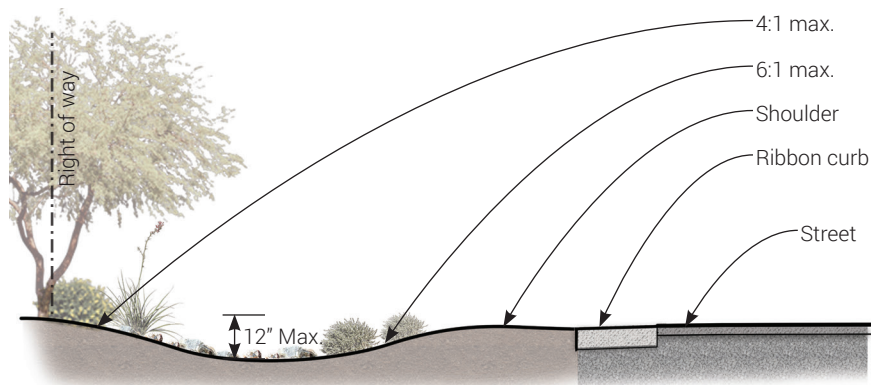

FIGURE 3d TYPICAL CROSS SECTION FOR ROADSIDE SWALES
3. Roadway runoff from flowing into front yards, driveways, garages and homes. Refer to Figure 3d Typical Cross Section for Roadside Swales, on non-raised curb street or straight cross slope.